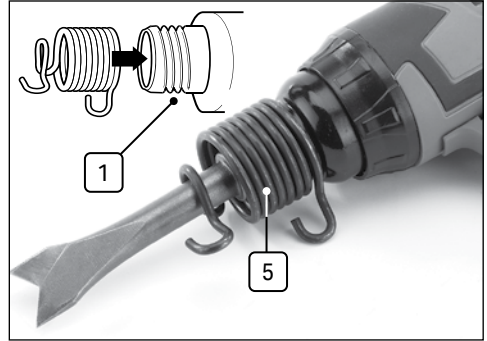

Fig. 4
6.3 Connecting Chisels (Fig.4)